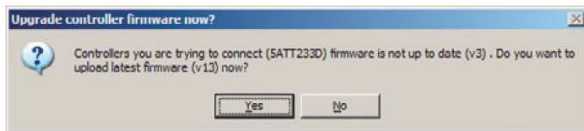

Figure 36. Dialog, asking whether to update firmware.
1. Answer “Yes” when asked about update dialog is shown in Figure 36. “Firmware Upgrade” window will appear. Click “Upgrade Firmware” button: